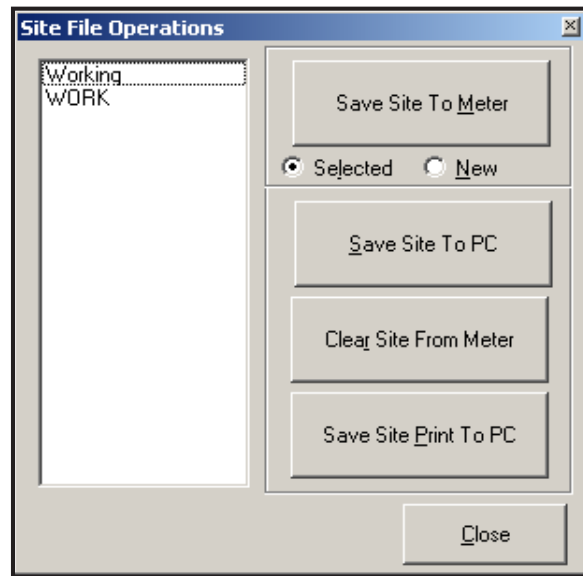

Figure 48: Site File Operations Window
- Click on the [Site Files] button. The *Site File Operations* window (shown in Figure 48) opens.
1. Highlight the desired site in the left pane. (See Figure 48 on page 123.)